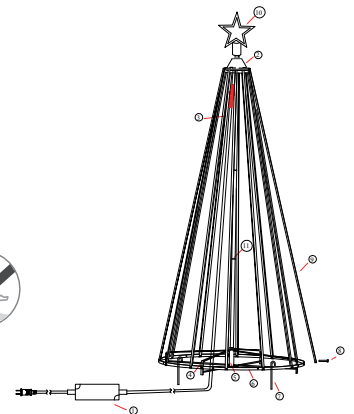

Figure 5
- Step 6: If the product is placed outdoors, please hook one end of the hook to the outer ring of the base and one end to the ground; (Figure 5)
- Step 7: Connect the connector of the lamp body to the connector on the controller; (Figure 5)